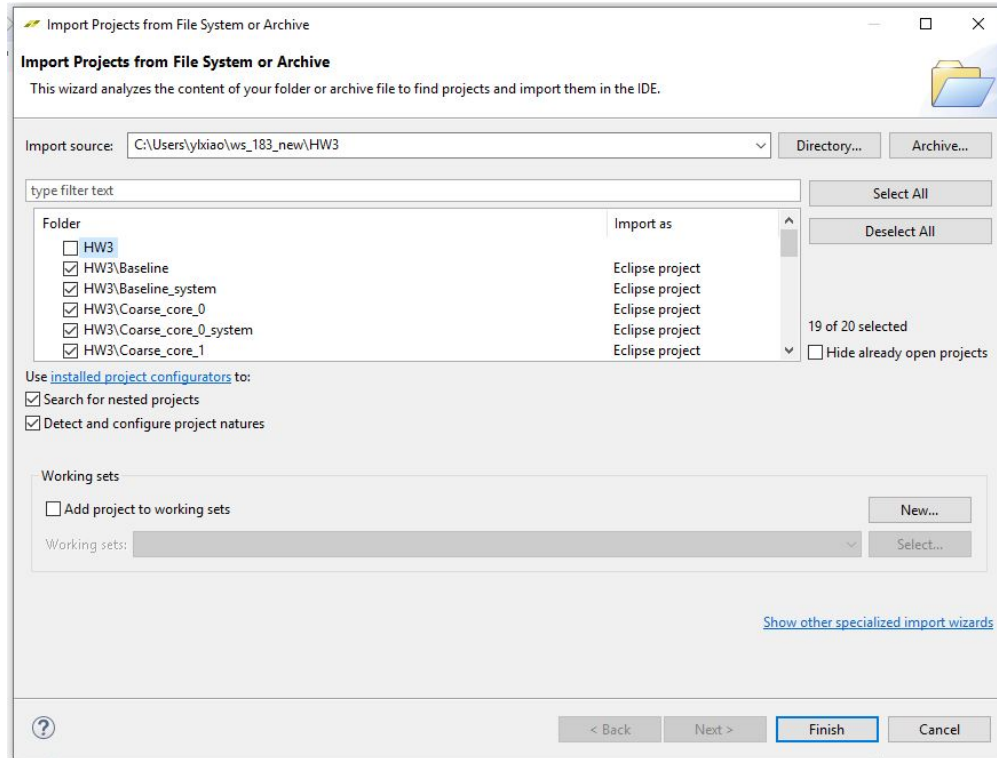

Figure 1: Projects in the Workspace
1. **Baseline** Extract the project archive, and click *File*→*Open Projects from File System..* Check all the project directories as Figure 1.